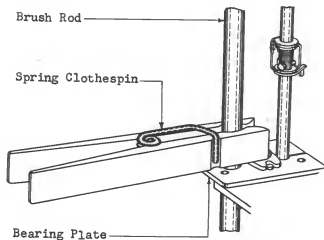

Fig. 13 - Placing Spring Clothespin on Brush Rod
Lift the brush rod away from the rack with the other hand. The rod now has no means of support, so it will be necessary to hold it in place with a spring clothespin just above a bearing plate as shown in Fig. 13. Lift the rack out from behind the clutch.
(1) Before checking the vertical alignment, uncouple the rack from the brush rod as covered in 3.005 and raise the brush rod to a point near the upper limit of its travel. Hold the brush rod in this position by means of the spring clothespin as shown in Fig. 13, preferably between banks Nos. 2 and 3.
(2) If any part of the requirement is not met, loosen the clutch mounting screw as outlined in 3.006 and shift the clutch as required. If the proper clearance between clutches cannot be obtained by shifting one clutch it may be due to failure of one or both of the adjacent clutches meeting this requirement. In this case loosen the clutch mounting screws of these clutches and shift them until the requirement